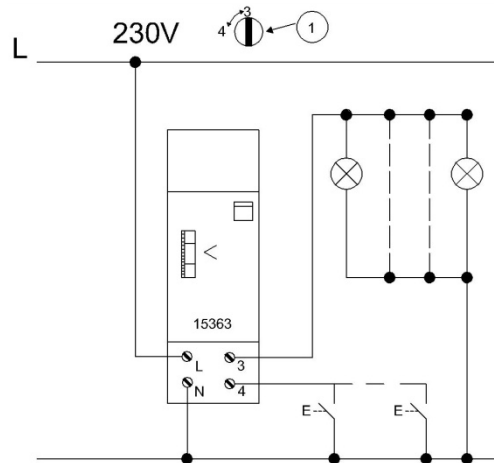

Figure 8.5: Schneider timer terminals' configuration and setting
It is a relay which activates or deactivates pairs of contacts for a preset time by pressing a push button. Timers are used for controlling stair case lighting. The time is set for seconds up to few minutes. Usually, the push buttons and lamps have direct connection to the neutral conductor. The connection depends on the type of timer used. Hence, the manufacturer's datasheet should be revised and studied carefully. In this experiment, Schneider timers, when activated by pressing one of two push buttons, will be used to control the turn-on time of two lamps. Schneider timer terminals' configuration is shown in Figure 8.5.
terminals configuration is shown in Figure 8.5. To implement the timer controlled lighting, follow the following steps (**note that all wires in the same conduit should be run simultaneously**):
1. Ensure that selector 1 (at the right side of the timer) is set to position '3', as shown in Figure 8.5